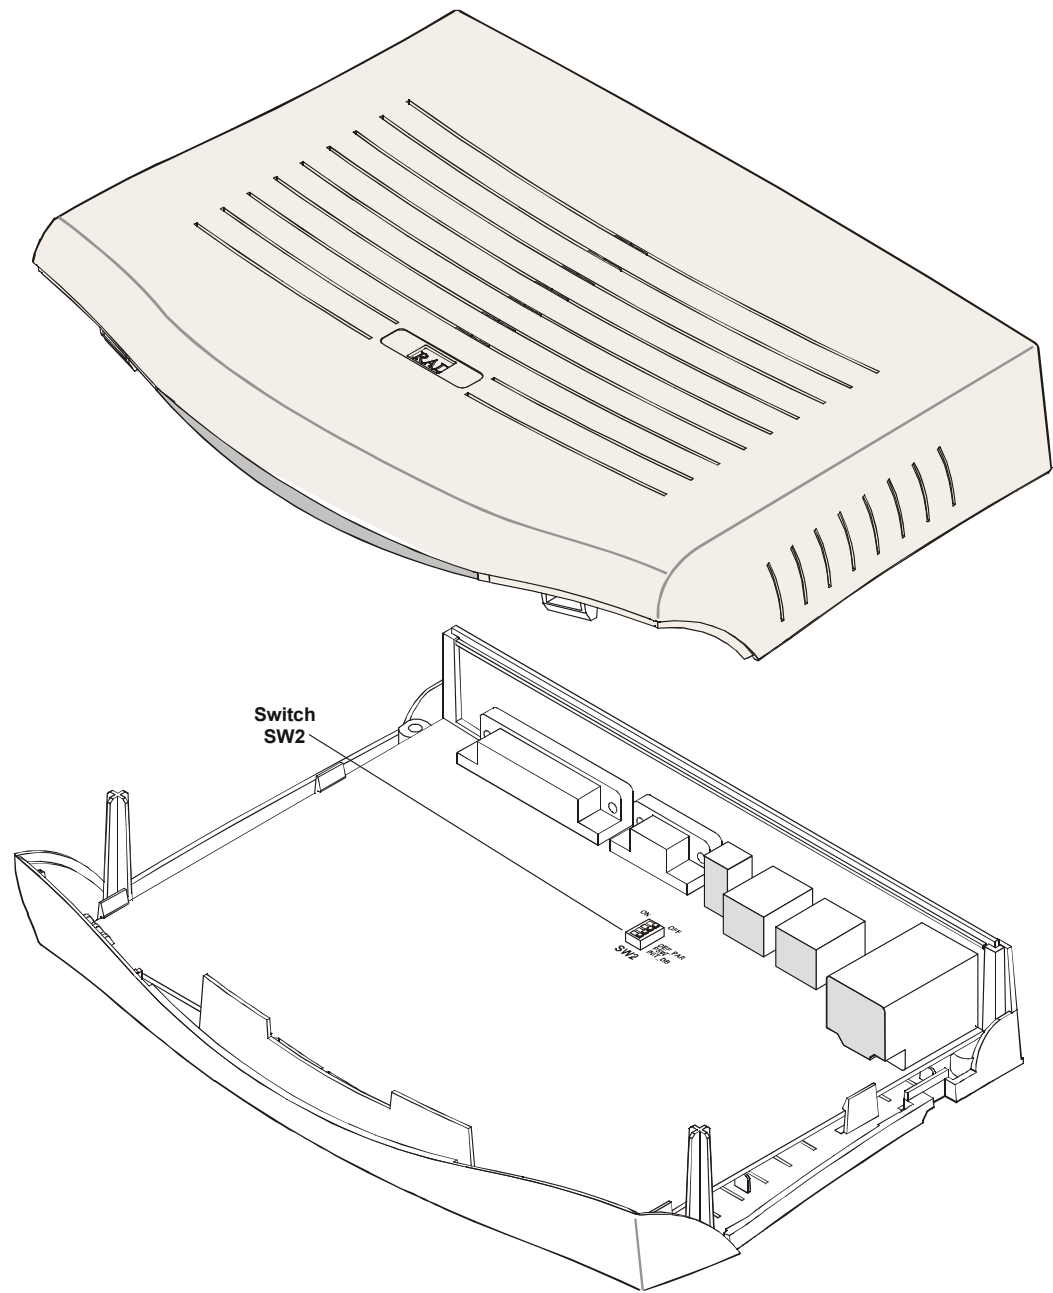

Figure 2-5. FCD-E1LC, General View After Cover is Removed
3. After catches are released, the cover easily slides off. Figure 2-5 shows a general view of a typical FCD-E1LC unit after cover is removed.